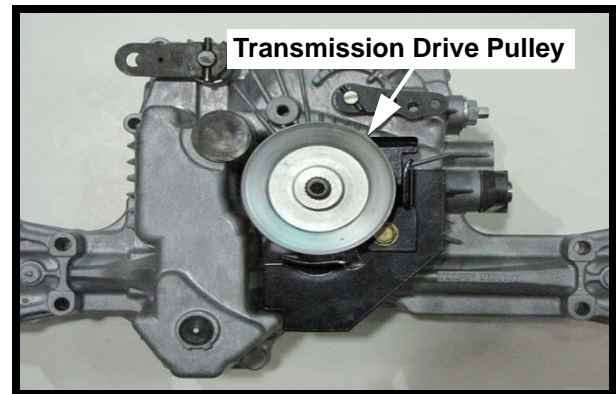

FIGURE 5
9. Install the transmission drive pulley onto the input shaft of the transmission. See Figure 5.